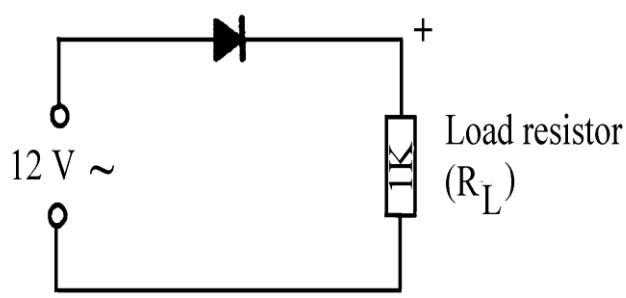

Figure 3
- Construct the circuit as shown in Fig.3.